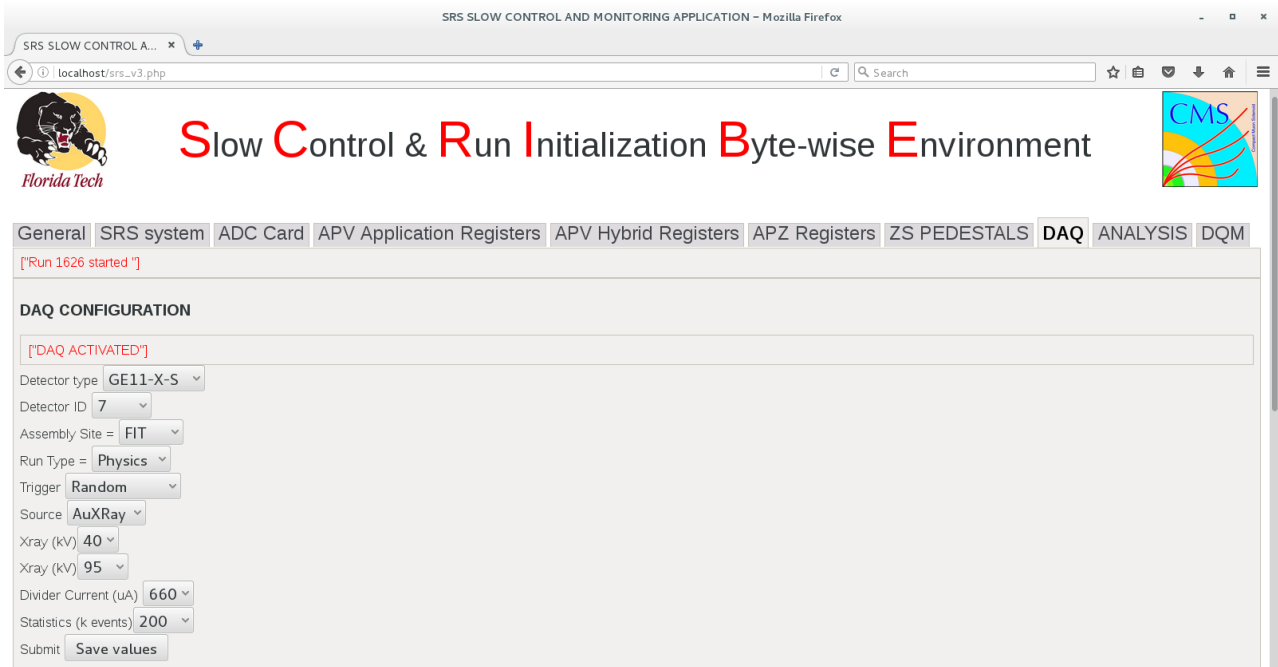
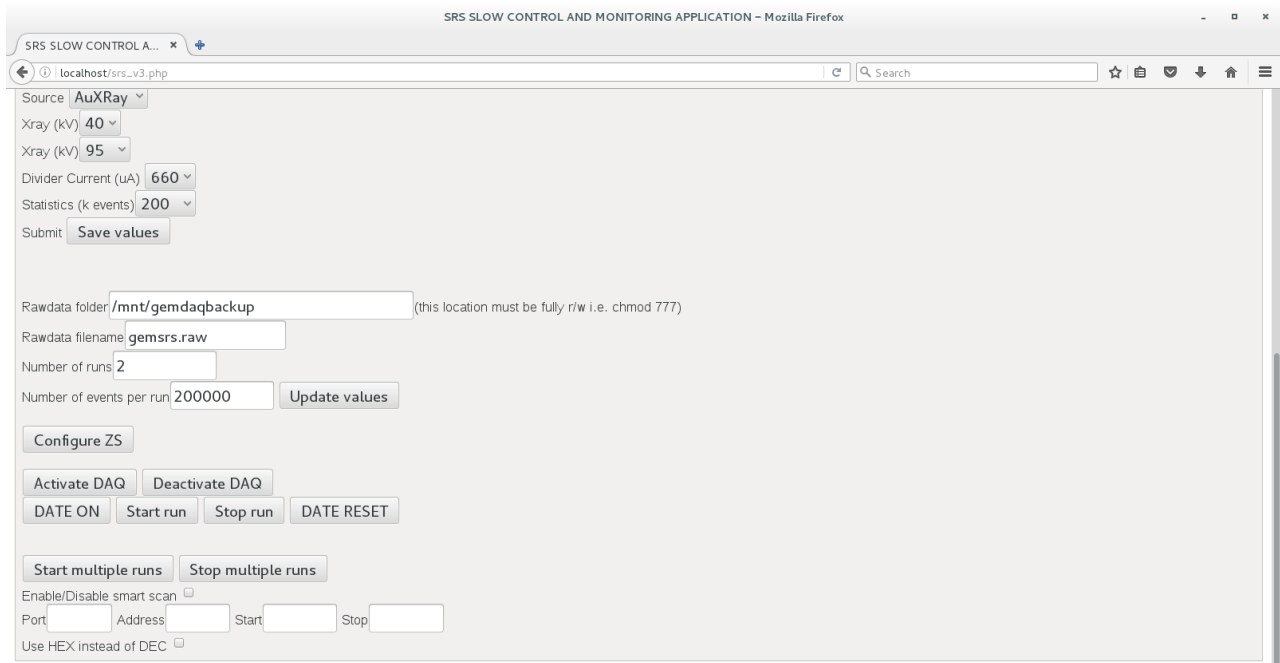

Figure 34: The SCRIBE control window.
Figure 35: The SCRIBE control window.
8. Now, open up a Firefox browser and type `localhost/srs_v3.php`. After this page has opened, click on the DAQ tab. The following window should be displayed (fig. 34 and fig. 35).